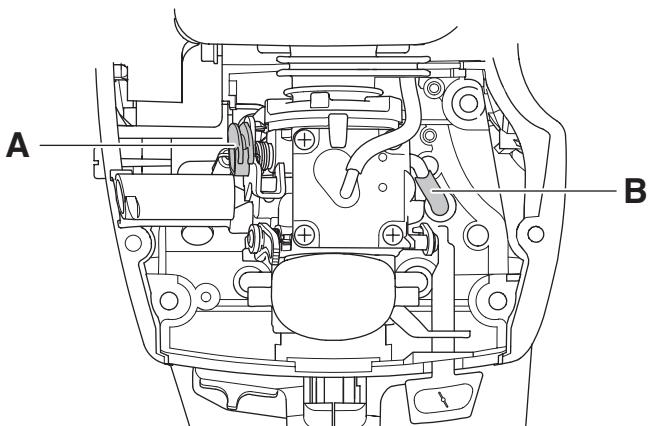
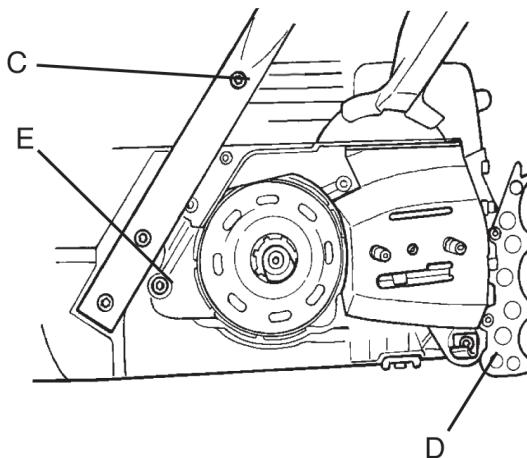

Fig. 1
Fig. 2
3. Disconnect the throttle cable (A) from the carburettor and push out the cable outer from its location. See fig. 1.
4. Remove the fuel line (B) from the carburettor.
6. Remove the bolts (C and D) and the travel limiter bolt (E) on the clutch side. See fig. 2.